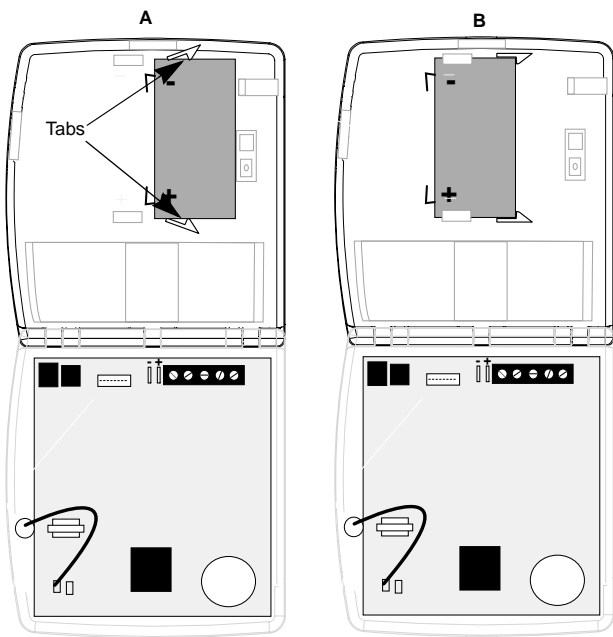

Figure 11. Installing the Panel Backup Battery
1. Position and push the battery between the 2 flexible tabs (A in Figure 11).
2. Slide the battery to the left until the tabs snap into place, securing the battery (B in Figure 11).